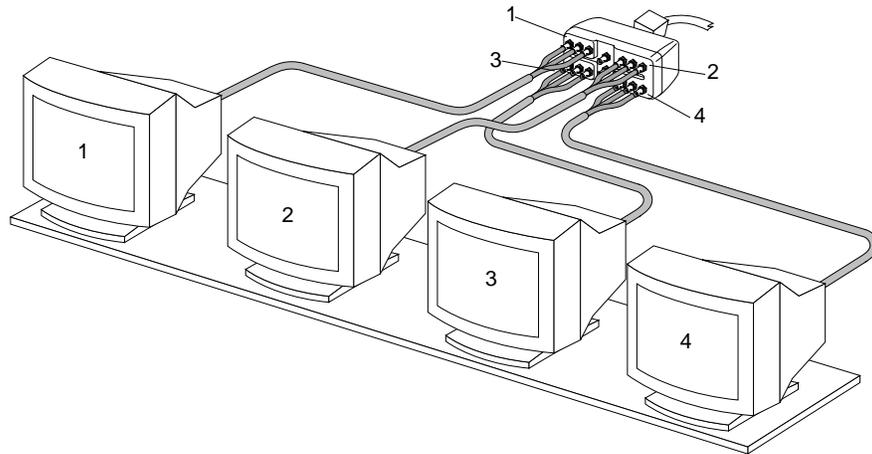

Figure 2-5 Arranging Four Monitors in a Side-by-Side Configuration
1. Arrange the monitors in the order you choose. A sample arrangement is shown in Figure 2-5.
2. Connect the monitors to the breakout box. The monitor attached to breakout box Section 1 is considered Monitor 1, etc. See Figure 2-5.